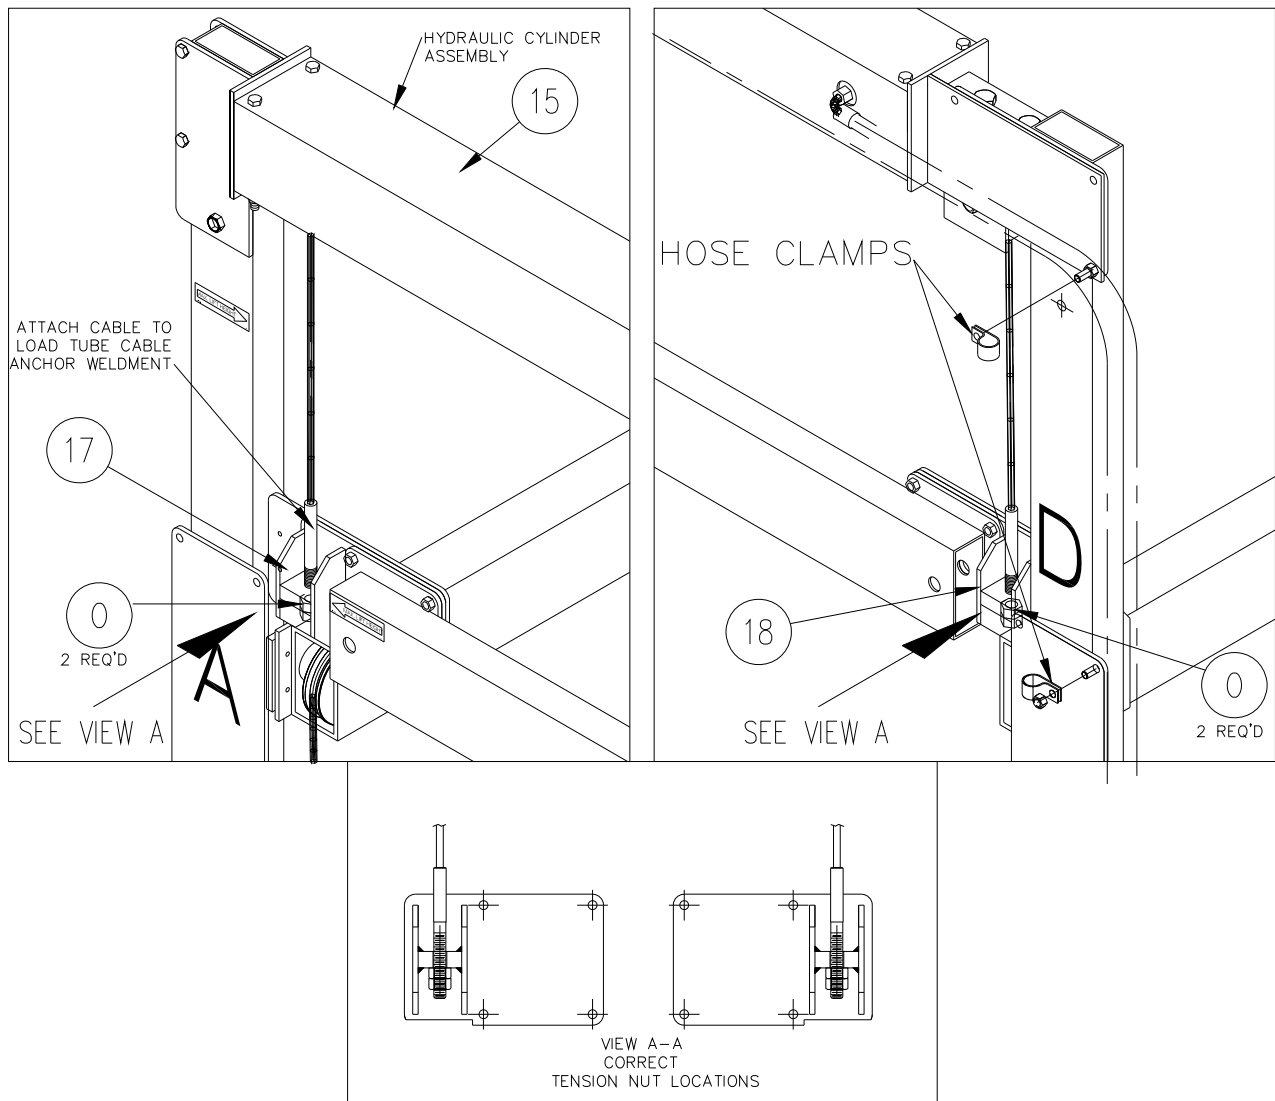

Figure 3-11
4. Using a 7/8" open-end wrench, tighten the cable studs on the cable. The following step numbers correspond to the step numbers shown in Figure 3-11.